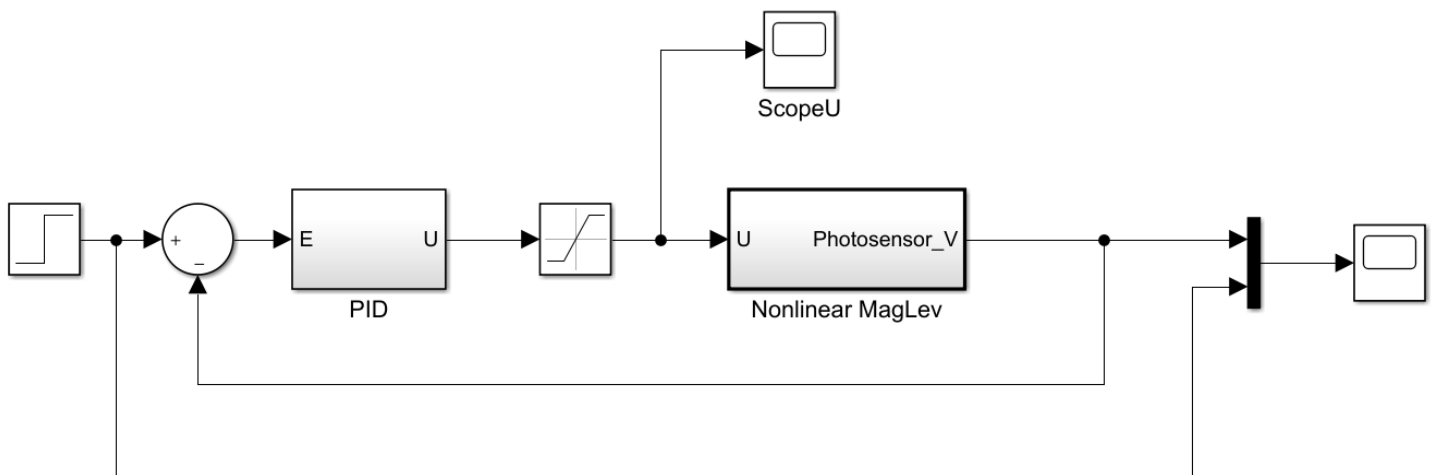

Figure 7 Simulation of the Mag Lev System with PID Controller
10. Implement your PID in the Simulink model to test the controller with the nonlinear model (Figure 7).